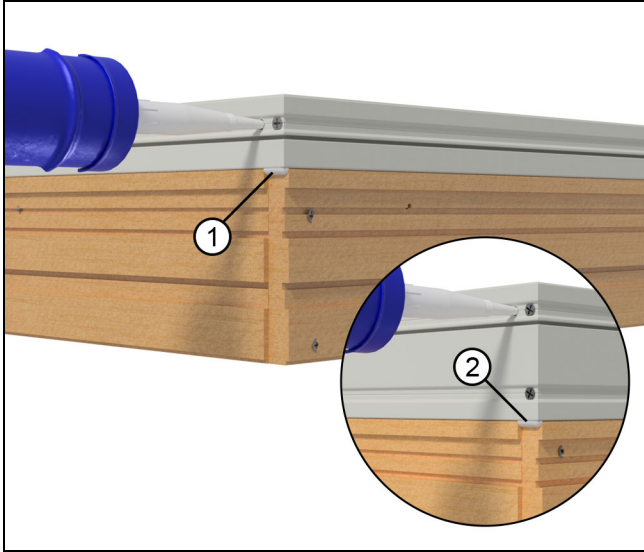

Figure 12
3. Use the remaining hole in the head jamb cladding to inject the keys. Inject until you see squeeze out in the image shown below. See Figure 12.